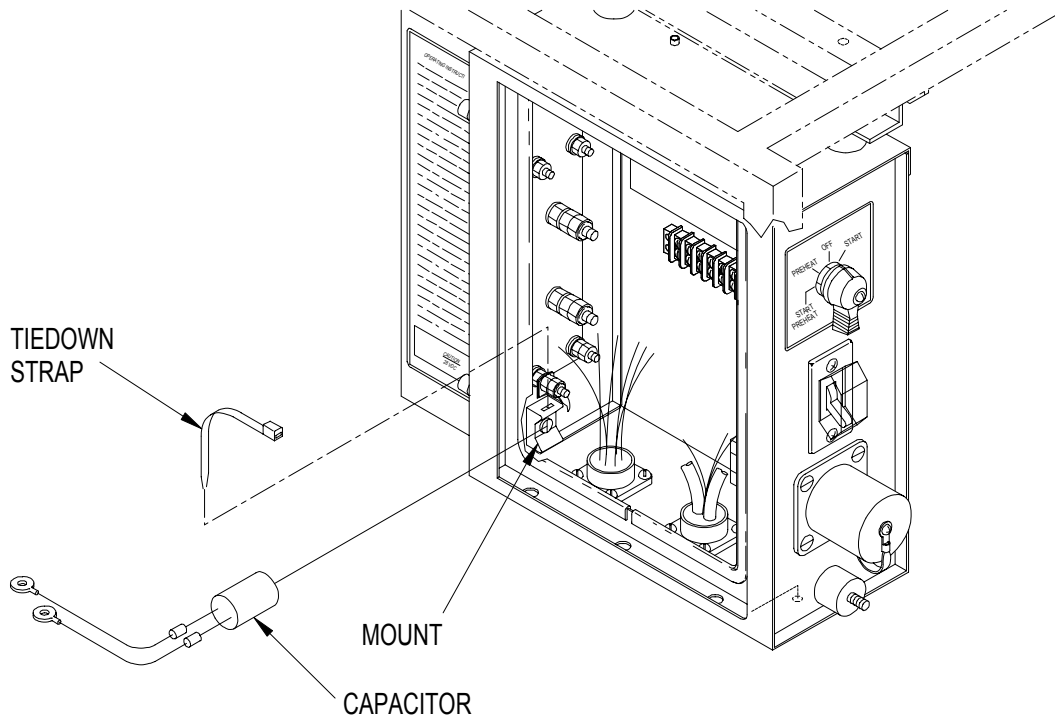

Figure 4-29. Capacitor (MEP-501A)
(1) Shut down generator set.
(2) Release instrument panel by turning fastener, open instrument panel slowly.
(3) Cut tie down strap securing capacitor (Figure 4-29) to mount.
(4) Tag and disconnect capacitor at terminal board and at load terminal (-). Remove capacitor from control panel.
- (1) Connect capacitor leads at terminal board and at load terminal (-) as tagged. Remove tags.
- (2) Secure capacitor (Figure 4-29) to mount with new tie down strap.
- (3) Close and secure instrument panel.